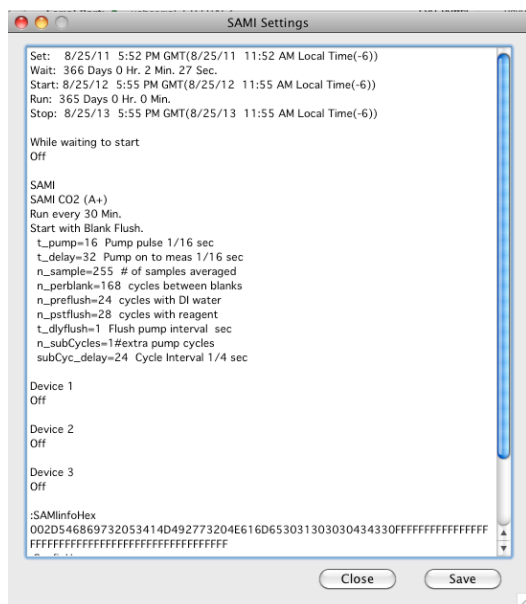

Figure 2. Configuration window that appears upon launching the instrument. Click 'Save' and keep this file for future data analysis of
2. After making these settings, go to the control panel and launch the device. The device must be downloaded and erased before it can be launched. (It can just be erased if there is no useful data on the instrument.) During launch be sure to save the configuration file when the SAMI Settings window appears (see figure 2). The default name for the file is 'SAMI Configuration' but you may want to give it a more meaningful name with the date or instrument number. This file is required to interpret the raw data coming out of the instrument.